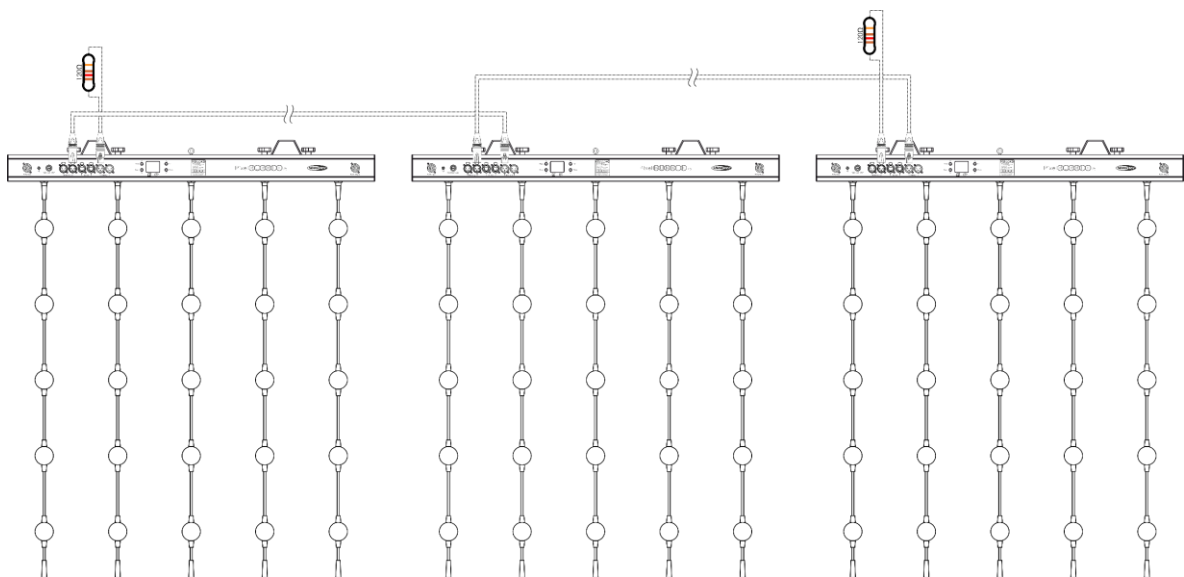

Fig. 07
- 02) Repeat step 1 to connect all devices as shown in Fig. 07.